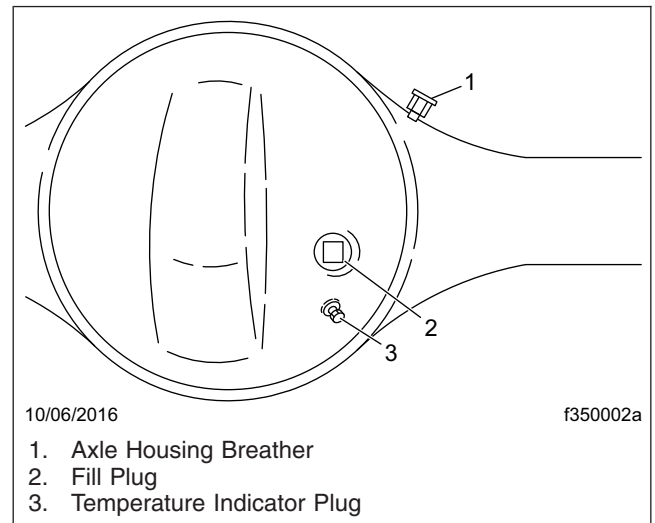

Fig. 9, Dana Spicer Axle Housing Breather
3. Clean the oil fill plug and the area surrounding it; see Fig. 9. Remove the plug from the fill hole (or standpipe, if installed in the oil fill hole).
6. Check the axle housing breather. Make sure that it is unclogged and free from corrosion. See Fig. 9. If the breather is plugged or damaged, clean or replace it as needed.